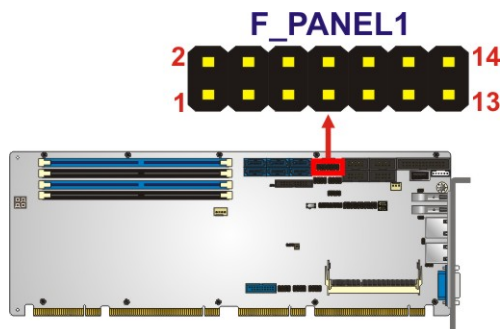

Figure 3-12: Front Panel Connector Location
- CN Location:** See Figure 3-12